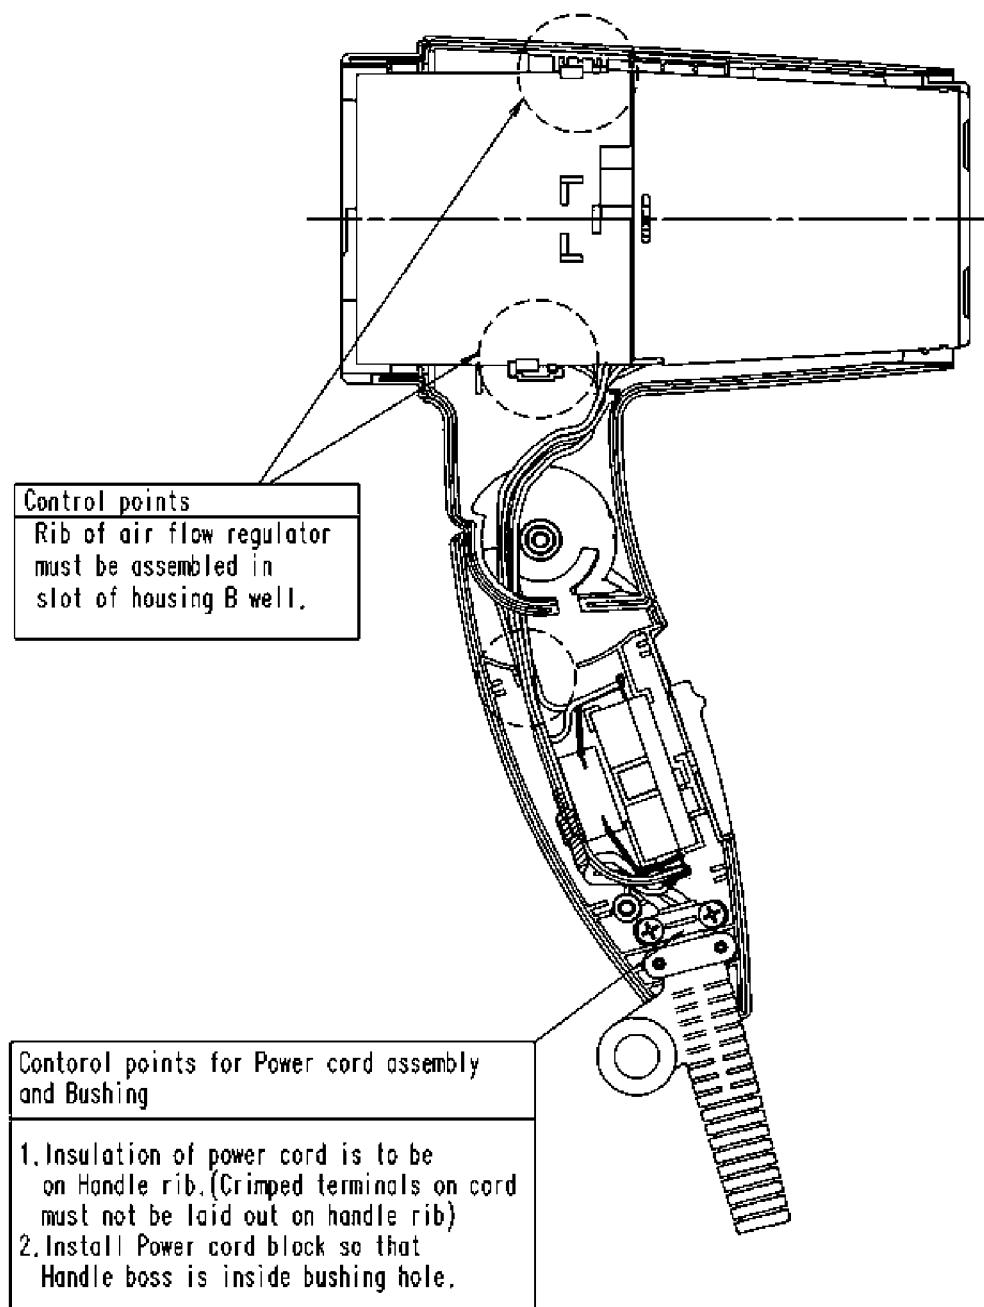

Figure 12
3. Assemble motor heater block with handle B and housing B as figure 12.